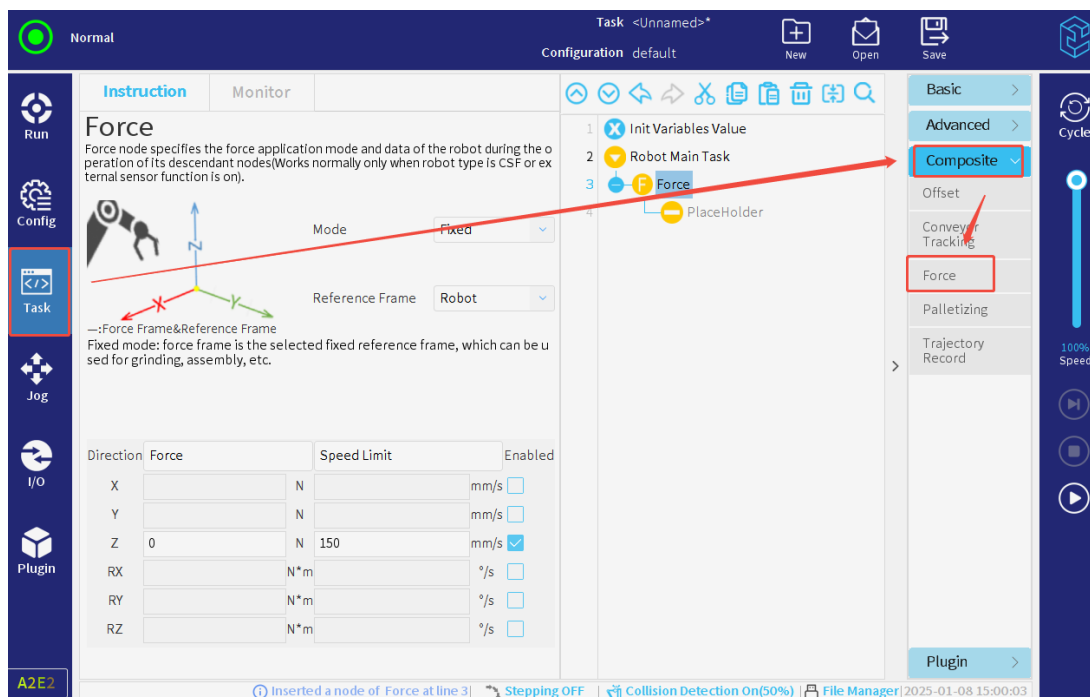

Figure 3-129 : Force
1. Tap "Task> Composite> Force". As shown in **Figure 3-129**.